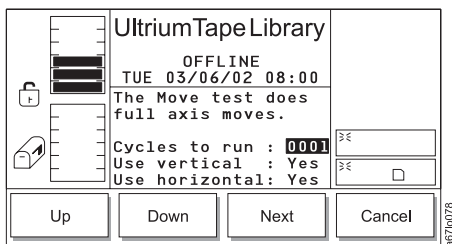

Figure 4-159. Move Dialog
5. Press the button below the **Move** softkey. The Move Dialog displays (see Figure 4-159).